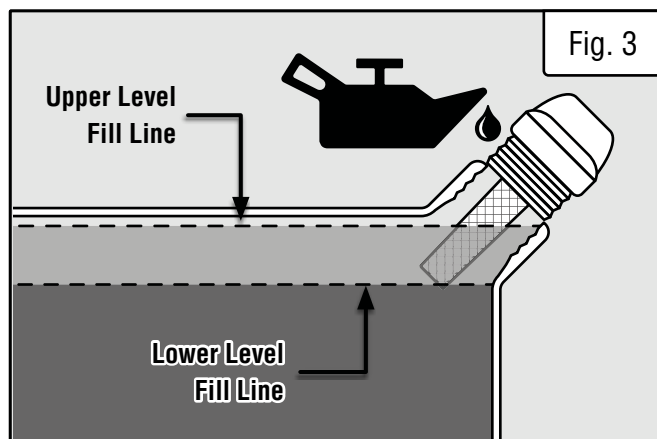

Fig. 3
3. Using an oil funnel or appropriate dispenser, slowly add oil into the oil fill, being careful not to overfill the unit. Fill the crankcase to the upper fill line so you can visually see the oil coming halfway up the oil fill threads (Fig. 3).